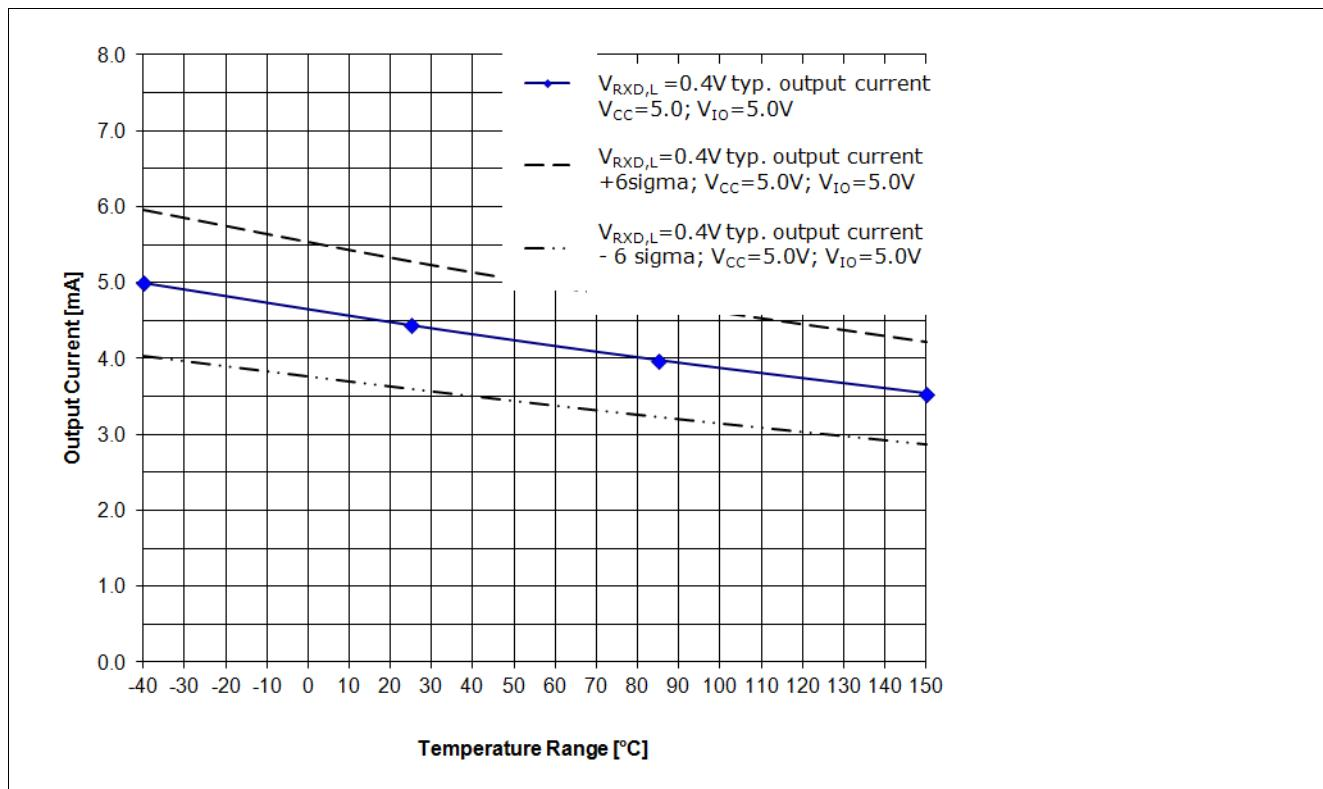
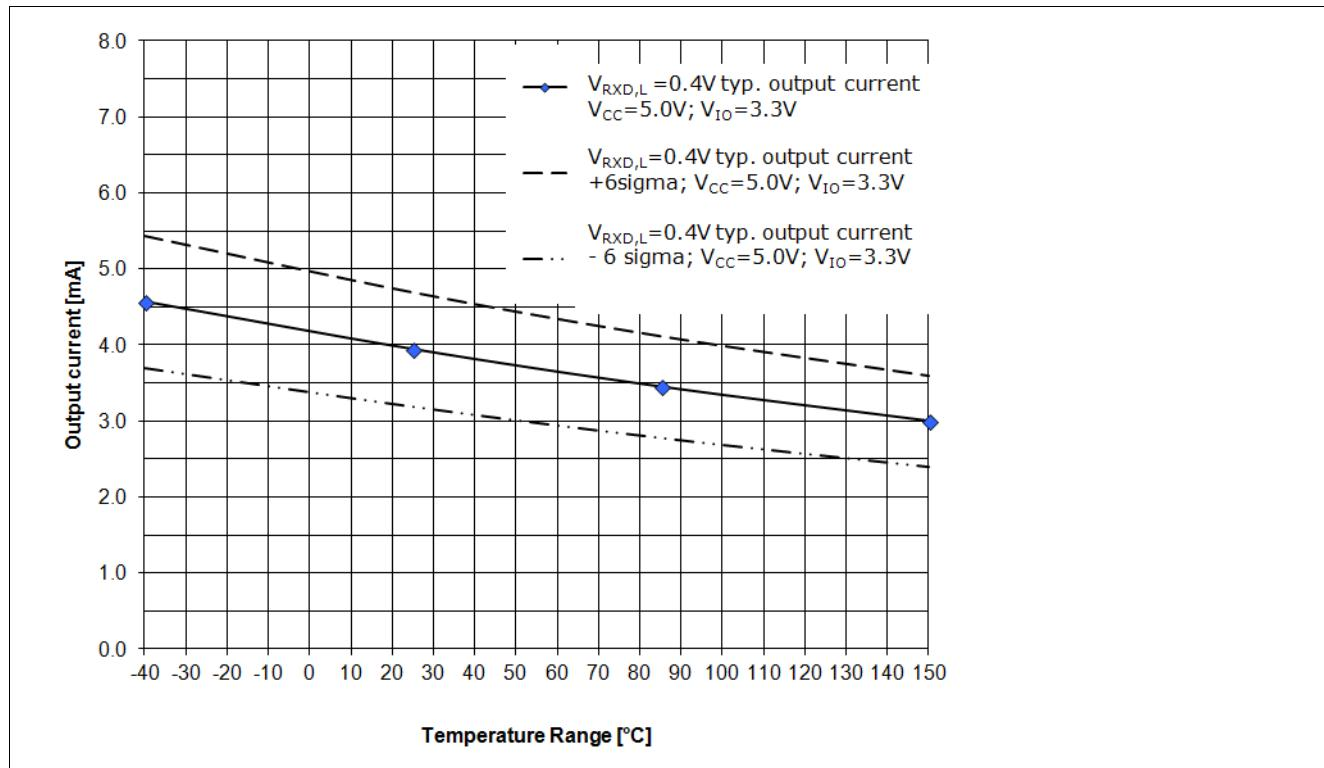

Figure 13 RxD Output driver capability for a logical “Low” signal $V_{RXD,L}=0.4\text{ V}$, $V_{CC}=5.0\text{ V}$, $V_{IO}=5.0\text{ V}$ ¹⁾
Figure 14 RxD Output driver capability for a logical “Low” signal $V_{RXD,H}=0.4\text{ V}$, $V_{CC}=5.0\text{ V}$, $V_{IO}=3.3\text{ V}^1$
The diagram in Figure 13 and the diagram in Figure 14 show the current capability of the RxD output pin depended on the chip temperature T_J . Figure 13 shows the current capability of the RxD output pin at a V_{IO} power supply of 5.0 V and Figure 14 shows the current capability of the RxD output pin at a V_{IO} power supply of 3.3 V.
- The curve “VRxD,H = 0.4 V; typ. output current; VCC = 5.0 V; VIO =5.0 V;” displays the typical output current at the RxD output pin of the TLE8250GVIO (see Figure 13).
- The curve “VRxD,H = 0.4 V; typ. output current + 6 sigma; VCC = 5.0 V; VIO =5.0 V;” displays the expected maximum value of the output current at the RxD output pin (see Figure 13).
- The curve “VRxD,H = 0.4 V; typ. output current - 6 sigma; VCC = 5.0 V; VIO =5.0 V;” displays the expected minimum value of the output current at the RxD output pin (see Figure 13).
- The curve “VRxD,H = 0.4 V; typ. output current; VCC = 5.0 V; VIO =3.3 V;” displays the typical output current at the RxD output pin of the TLE8250GVIO (see Figure 14).
- The curve “VRxD,H = 0.4 V; typ. output current + 6 sigma; VCC = 5.0 V; VIO =3.3 V;” displays the expected maximum value of the output current at the RxD output pin (see Figure 14).
- The curve “VRxD,H = 0.4 V; typ. output current - 6 sigma; VCC = 5.0 V; VIO =3.3 V;” displays the expected minimum value of the output current at the RxD output pin (see Figure 14).